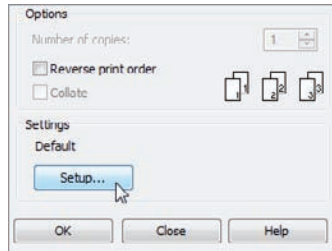

FIGURE 14.34 Clicking the Setup button
10. In the lower-right corner, in the Settings area, click the Setup button, as shown in Figure 14.34.